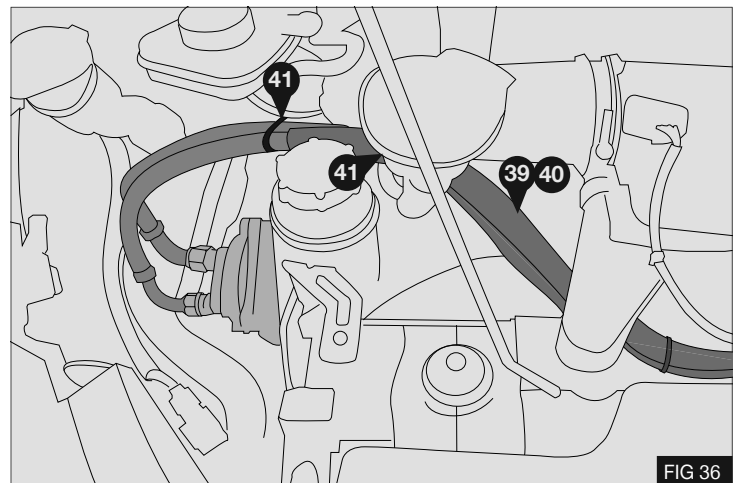

FIG 36
1. Connect the hoses to the compressor with 90 degree fittings, Use the split tubing (39) and (40) route as shown and secure using cable ties (41) - Fig 36